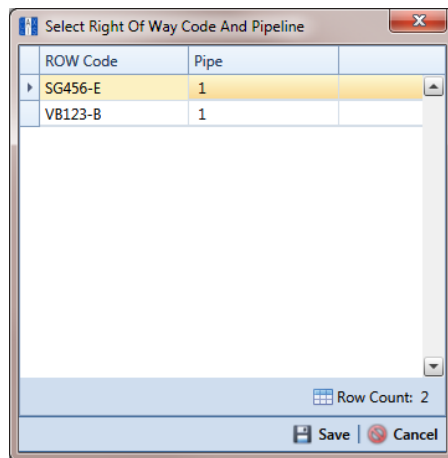
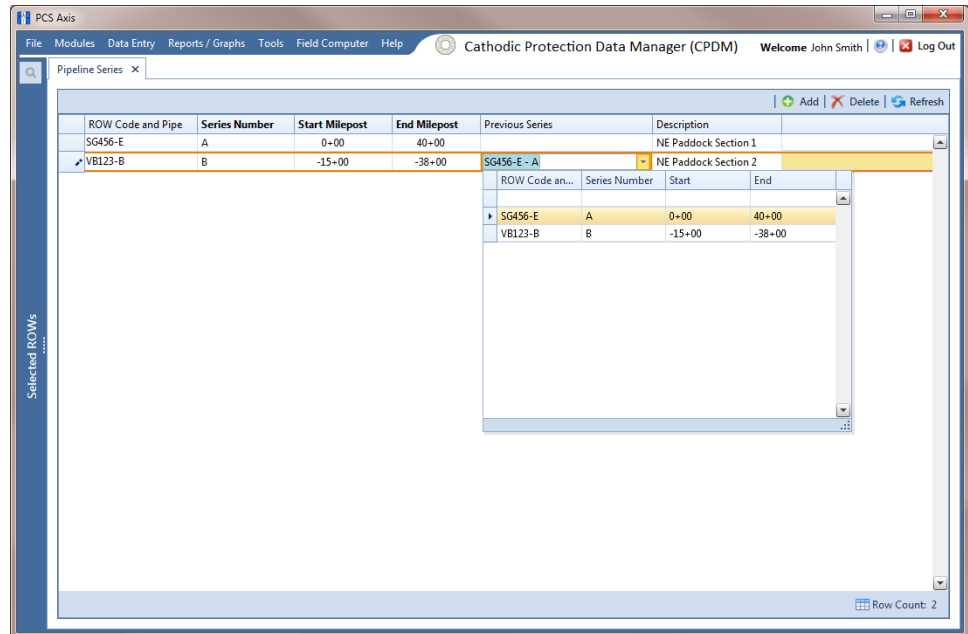

Figure 3-67. Select Right Of Way Code And Pipeline
Figure 3-69. Pipeline Series
- Click **+** **Add** and then select the *ROW Code* and *Pipe* you want to work with in the dialog box that opens (Figure 3-67).
- 10 If you want to add another *Series*, complete the following steps to create a pipeline *Series* chain (Figure 3-69):
NOTE: PCS Axis uses the preceding *Series* of each *Series* in a chain to calculate the *Relative Milepost*. All *Series* in a chain except the first *Series* require that you identify the *Previous Series* (Figure 3-69).
The following example illustrates a pipeline *Series* chain with two *Series* in the chain (Figure 3-69). *Series A* was added for the original pipeline segment with a start and end milepost of 0+00 and 40+00 respectively. *Series B* was added for a pipeline extension. Because the mileposts are in reverse order in *Series B*, the *Pipeline Series* is set up with a start and end milepost of -38+00 and 0+00 respectively. Also see Figure 3-67 (page 115) for an illustration of a pipeline *Series* chain with calculated *Relative Mileposts*.